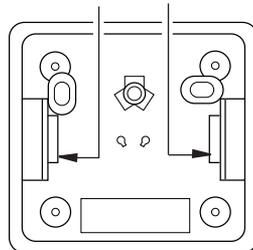

Figure 32 - Back View of Thermostat Base
6. Feed the electrical wires through the rectangular slots on each side of the base (see Figure 32).